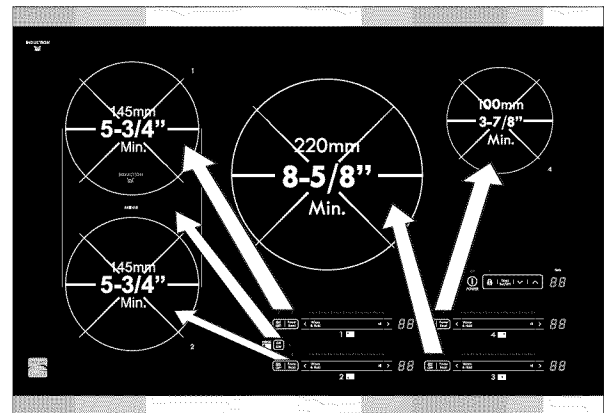

Fig. 8
- Pan does not meet the minimum size required for the Cooking Zone used (Figs. 8 & 9).
- Pan size meets or exceeds the recommended minimum size for the Cooking Zone (Figs. 8 & 9).
The Cooking Zones available on the Induction Cooktop require a **MINIMUM** pan size to be used at each location (Figs. 8 & 9).